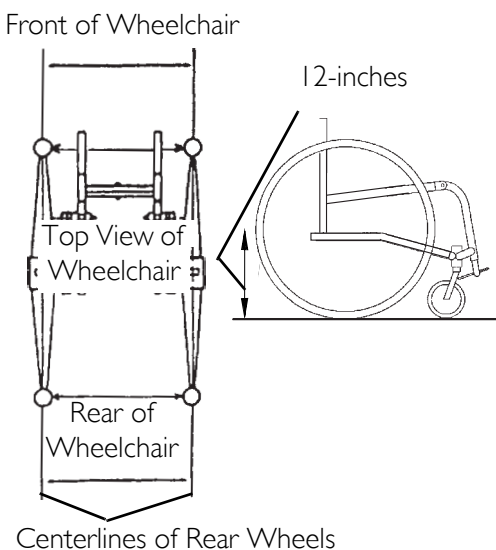
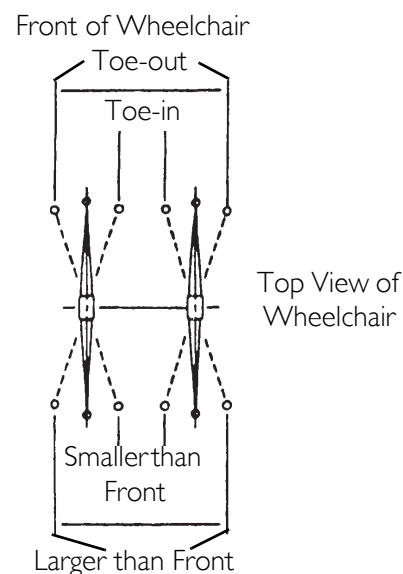

FIGURE 6.8 Determining Toe In/Toe Out - Measuring Centerlines of Rear Wheels
FIGURE 6.9 Determining Toe In/Toe Out - Comparing Centerline Measurements of Rear Wheels
NOTE: For this procedure, refer to FIGURE 6.8 and FIGURE 6.9.
2. Measure the distance between the centerlines at the rear and front of the rear wheels at approximately 12-inches from the ground/floor (FIGURE 6.8).
3. Determine difference between two (2) measurements. If difference between the two (2) measurements is greater than 1/2-inch (0 + 1/4-inch for maximum rollability), one (1) of two (2) conditions exists:
- A. If the back centerline measurement of the rear wheels is **SMALLER** than the front centerline measurement of the rear wheels, a **TOE-OUT** condition exists (FIGURE 6.9).
- B. If the back centerline measurement of the rear wheels is **LARGER** than the front centerline measurement of the rear wheels, a **TOE-IN** condition exists (FIGURE 6.9).